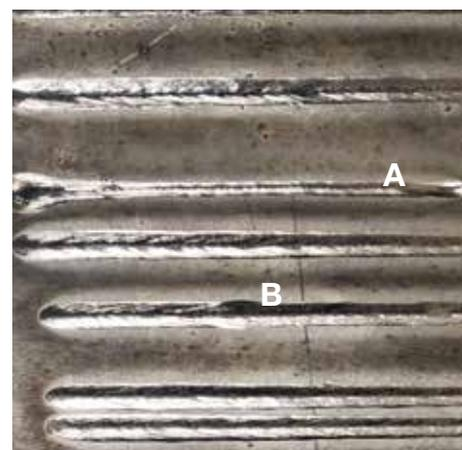

Figure 2: Effect of filler wire speed on the weld bead. A: low welding speed. B: high filler wire rate
- **Welding/filler wire speed:** The wire feed rate for a given air gap and plate thickness is dependent on welding speed, the cross sectional area of the gap between the joint face and cross sectional area of the filler wire. A filler wire speed that is too low may result in formation of a liquid metal bridge, formation of a drop at the end of the wire, and momentary disturbance of the process stability (Figure 2, label A).
A filler wire rate that is too high causes the energy supplied to the welding area to be insufficient for stable and permanent wire melting. Excessive wire speed can also reduce the penetration depth, weld width and topbead height (Figure 2, label B).